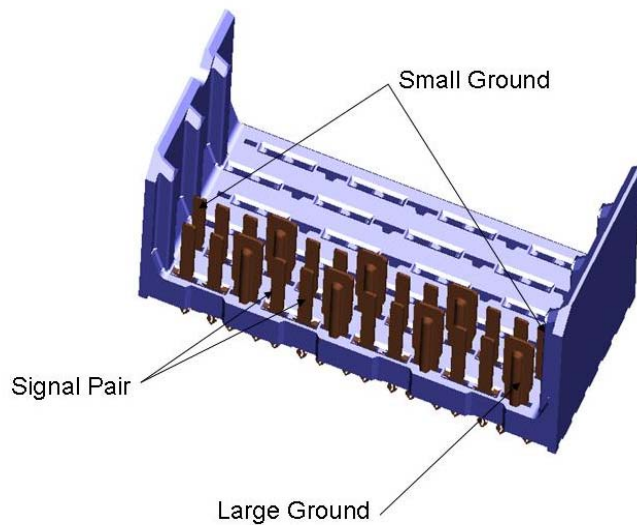

Figure 1. XCede press-fit connector platform
4.1 The XCede and XCede Plus press-fit connector platform is designed with partial modular reparability. Signals are front (top) loaded and may be removed/replaced without removing module from circuit board. All grounds, both large and small, are bottom loaded into module and cannot be individually removed from modules that are board mounted. See Figures 1 and 2 for XCede and XCede Plus signals, small grounds and large ground locations.